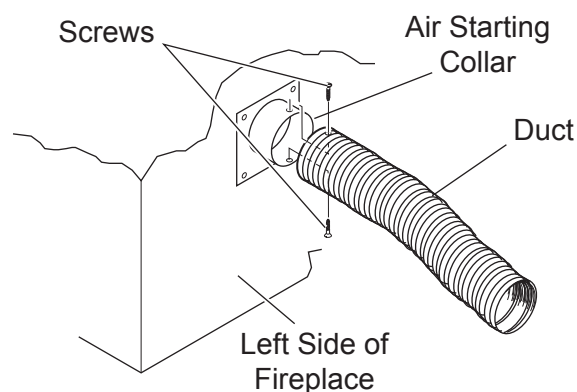

Figure 22 - Attaching Outside Duct to Starting Collar
4. Attach outside duct to starting collar with duct clamp or screws. *See Figure 22.*
6. Select and cut a piece of duct long enough to attach to the fireplace and stick out at least 3" beyond the face of the wall to which the AK-4 inlet air vent will be attached. *See Figure 22.*